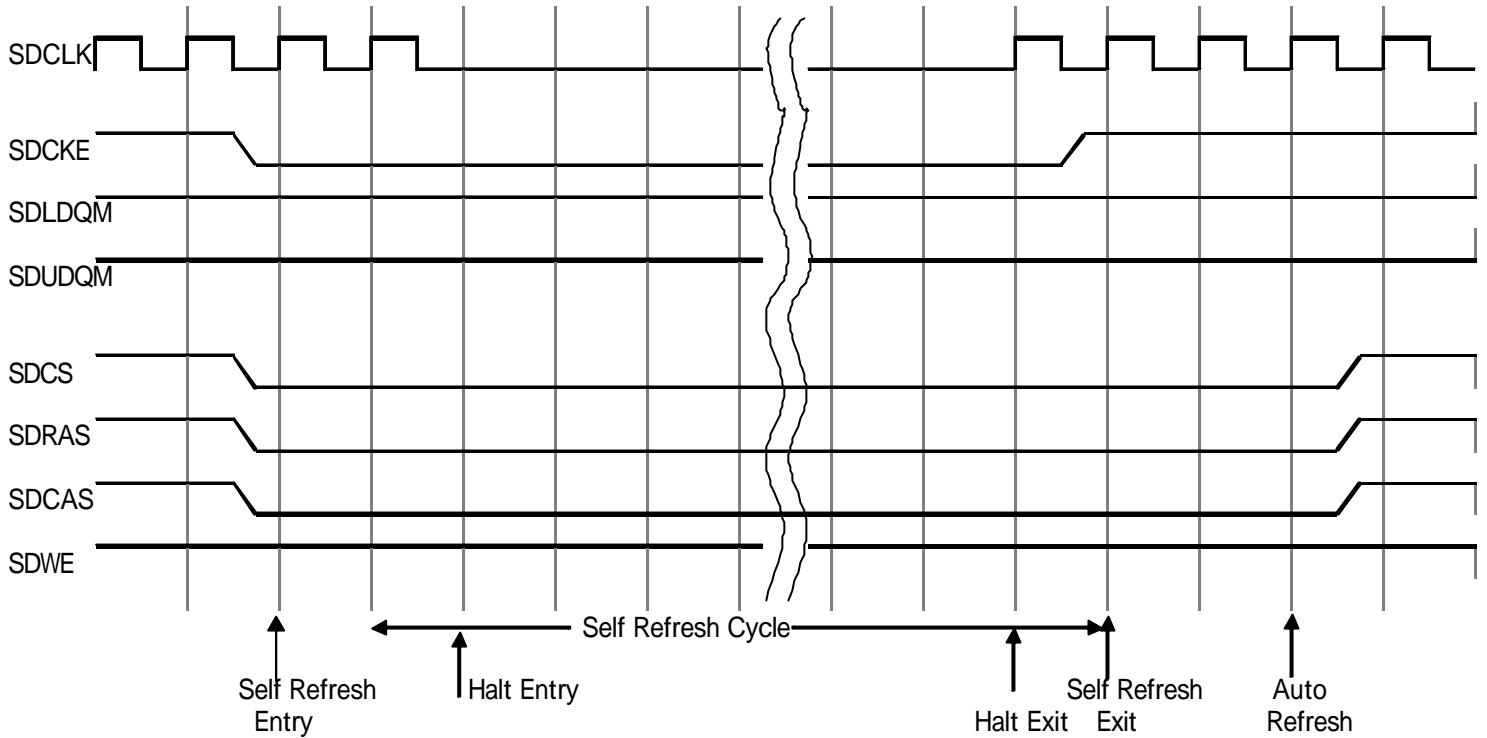

Fig. 3.16.2(8) Self Refresh Cycle
Furthermore, TMP91C820A can generate a self refresh cycle. The timing of a self refresh cycle is shown in Fig. 3.16.2 (8).
If SDRCR <SFRC> is set to "1", the self-refresh cycle shown in Fig. 3.16.2 (8) will occur. The self refreshment mode is used when using the standby mode (STOP, IDLE1) which an internal clock stops. Before HALT command (STOP, IDLE1) of interval refreshment in the state of enable, please set SDRCR <SFRC> to "1."